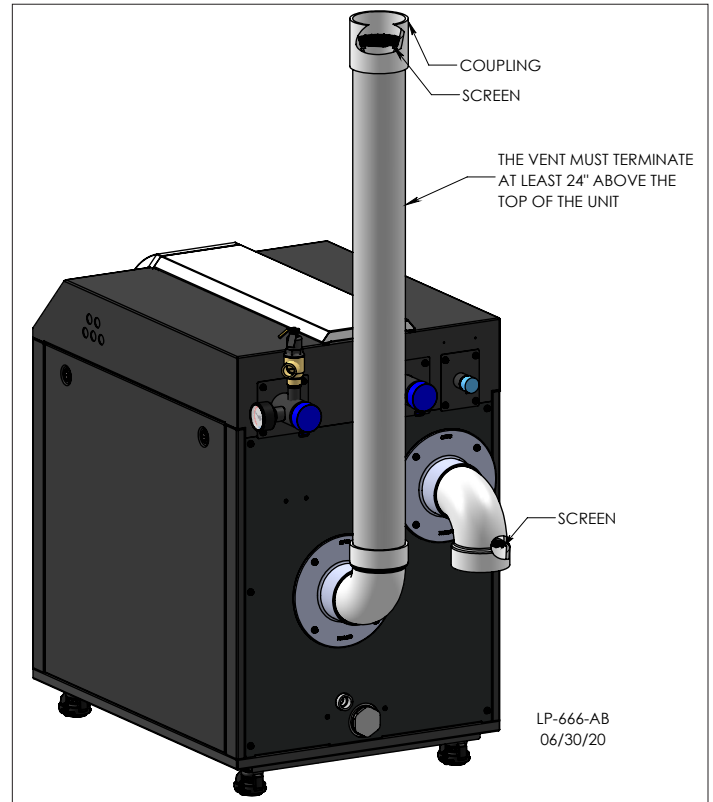

Figure 5 - Elite XL Outdoor PVC/CPVC Venting Installation
3. Install an appropriately sized exhaust vent pipe and 90° elbow into the exhaust adapter. Face the open end of the elbow up and run the exhaust pipe vertically **a minimum of 24" above the top of the Elite XL**. See Figure 5 for detail.